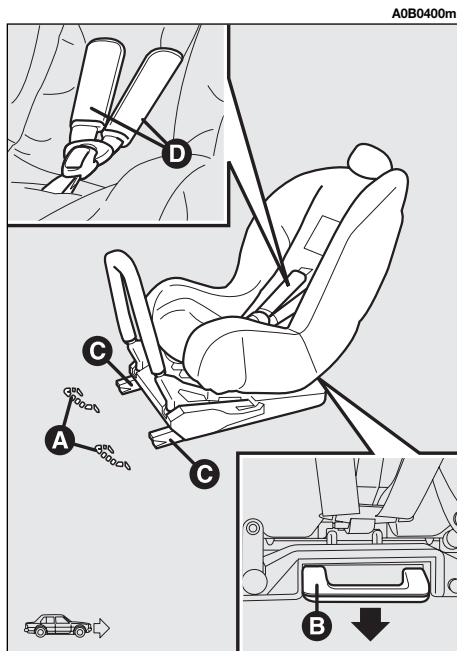

fig. 57
For children of the **0, 0+** weight group, the child's seat is facing backwards (babies up to 13 kg) and the child is restrained by the child's seat belts (**D**-fig. 57).
- check whether the release lever (**B**-fig. 57) is at rest position (inward)